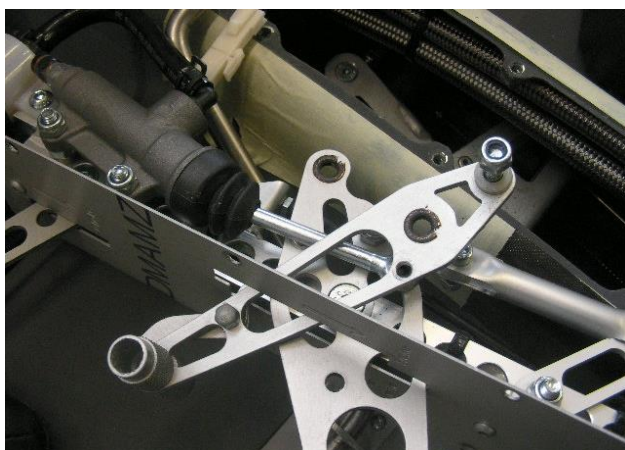

Fig. 3 – Dismounting brake lever
- 5 Demount brake lever (Fig. 3)
- 7 Shove in brake lever until screw of brake actuator push rod is accessible. Demount push rod (Fig. 3)